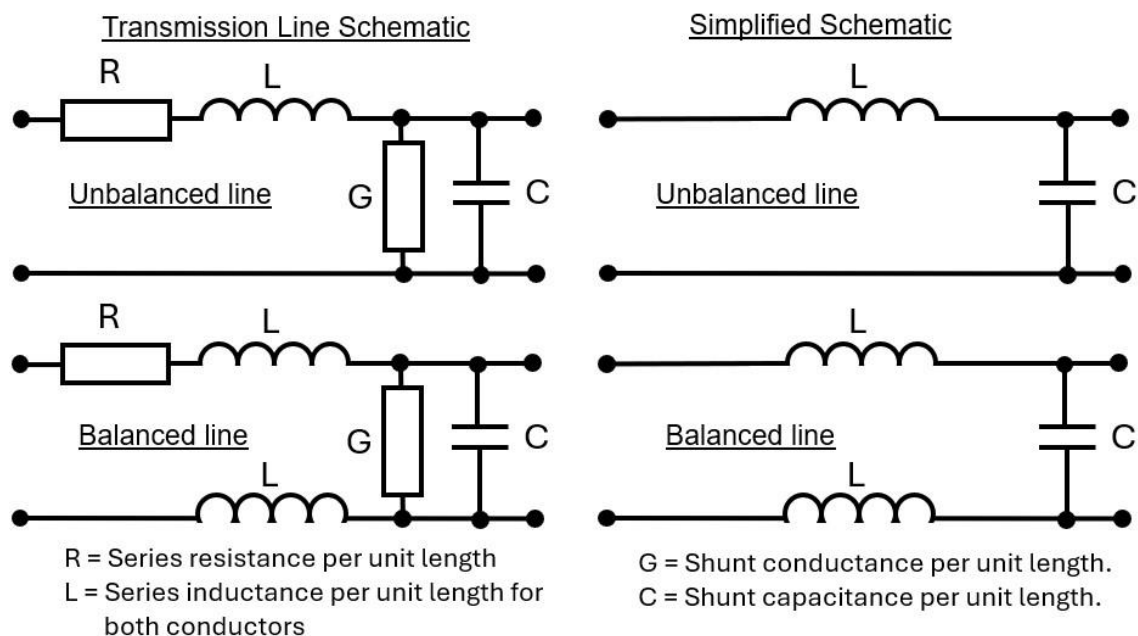
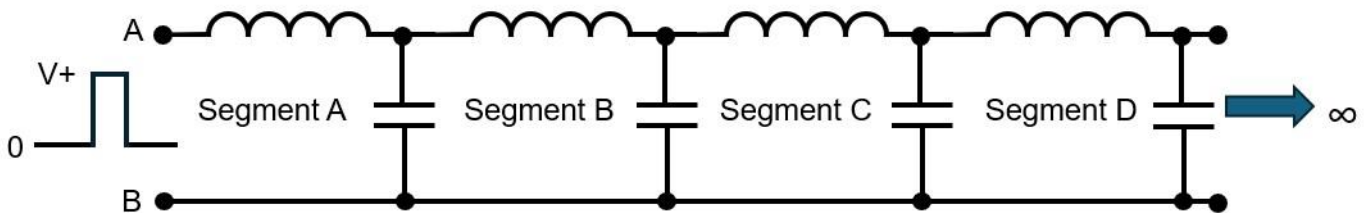

Figure 1 Transmission line model.
Figure 4 Line segments.
Figure 1 is a representation of transmission lines. The resistance (R) and conductance (G) are necessarily small otherwise the cable has too much loss. A simplified diagram of transmission lines negating the resistance and conductance, as used in most handbooks, is also shown in Figure 1. This diagram shows the series inductor (L) and the parallel capacitor (C).
We can see from the transmission line components in Figure 1 that transmission lines have both inductance and capacitance. The cable is designed and manufactured to have these characteristics. The capacitance and inductance are crucial for calculating the characteristic impedance. Figure 3 shows the calculation of characteristic impedance from the cable data sheet.
Looking at Figure 1, this represents the whole line. If we break the transmission line into smaller segments, as in Figure 4, and analyse how each segment works.